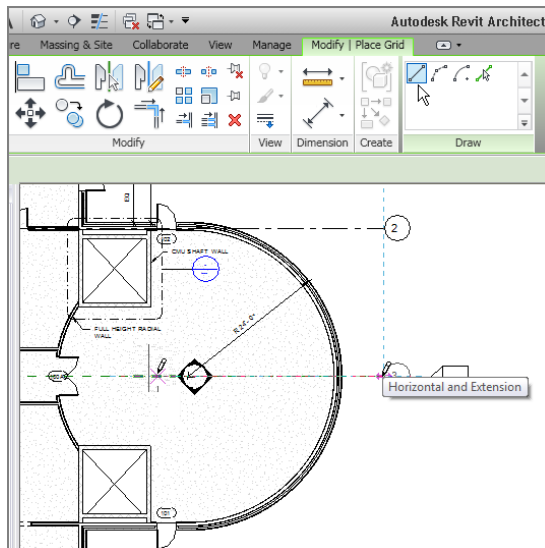

FIGURE 8.6: Adding grid 3 at the center of the building
3. Pick a point along the center reference plane, as shown in Figure 8.6.
4. Pick a second point in alignment with grid 2 (see Figure 8.6).